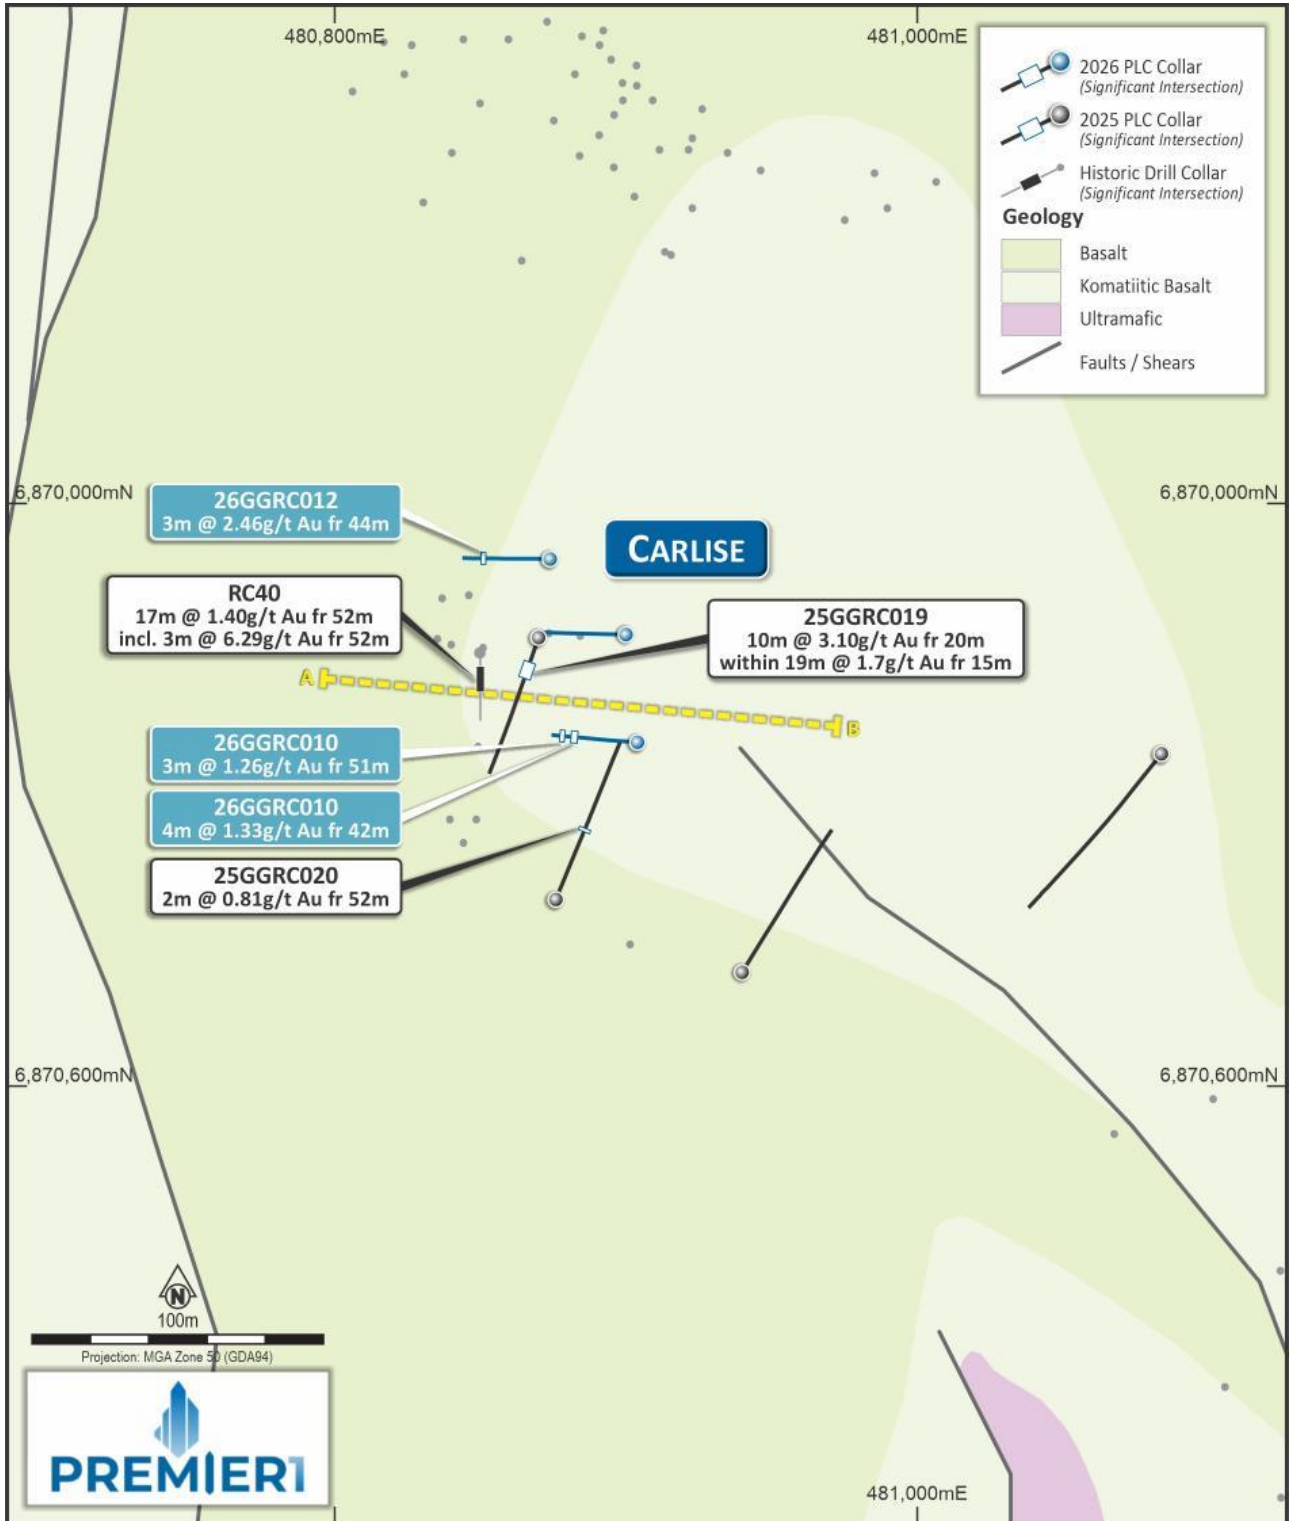

Figure 1: Carlisle Prospect RC Drilling
**Premier1 Lithium Limited (ASX:PLC) ("Premier1" or the "Company")** is pleased to provide an update on the recently completed drilling at the Company's **Yalgoo Gold Project** in Western Australia (Figure 1).
Drilling at the Carlisle prospect has intersected high-grade gold mineralisation outside the existing Wadgingarra Inferred Mineral Resource and importantly, analysis of multielement geochemistry from the 2025 and 2026 drilling has identified a significant VMS signature in both alteration (actinolite-ankerite) and pathfinder geochemistry (Bi-Ba-Te-K-Sn-As-Cu-W-Sb-Ag), related to the gold mineralisation at Carlisle which had not previously been recognised. A total of 3 holes (Figure 1) for 180m were drilled at Carlisle with results including;